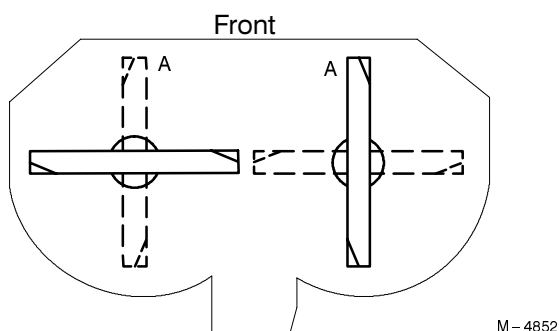
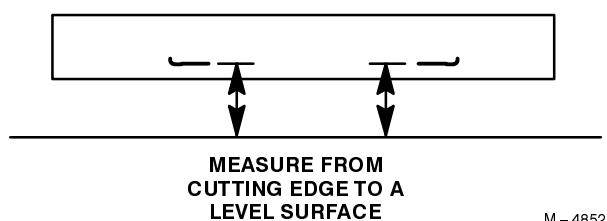

Figure 49
Figure 50
3. With the machine on level surface, position one blade front-to-rear (Fig. 49). Measure at "A" from level surface to the cutting edge of the blade tips (Fig. 50).